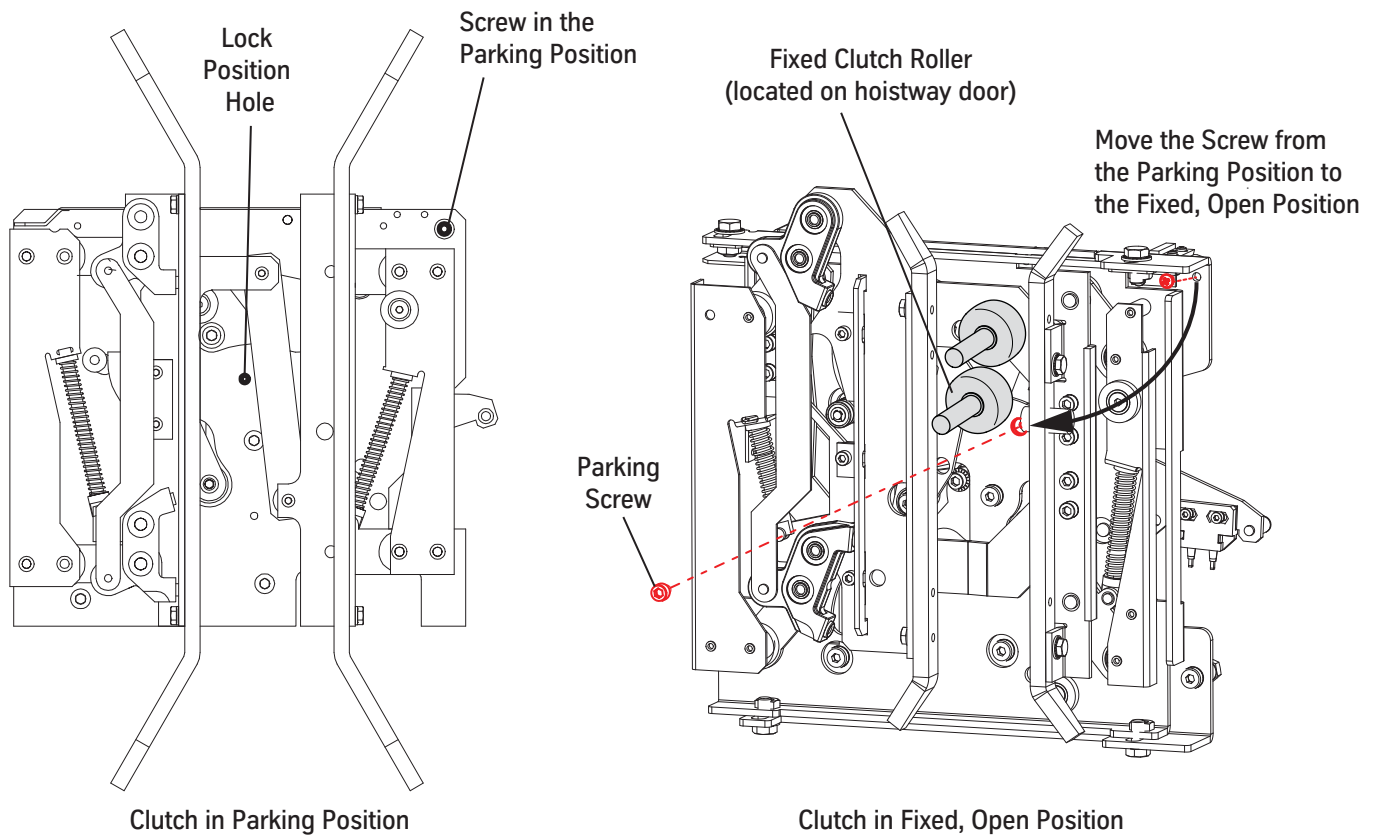

Figure 52 - Block LD-16 Clutch Open
1. Remove the screw from the parking position on the clutch. See Figure 52.